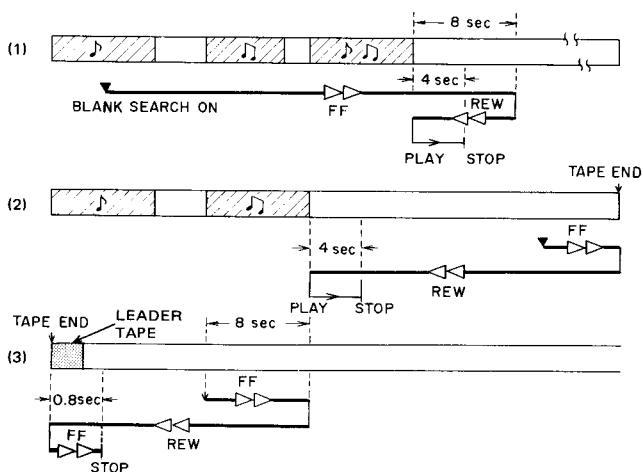

Fig. 1-22 BLANK SEARCH operation
As shown in Fig. 1-22 (3), in case of the unrecorded tape, the tape returns to the tape end in REW mode after the search had been done for 8 seconds in FF mode.